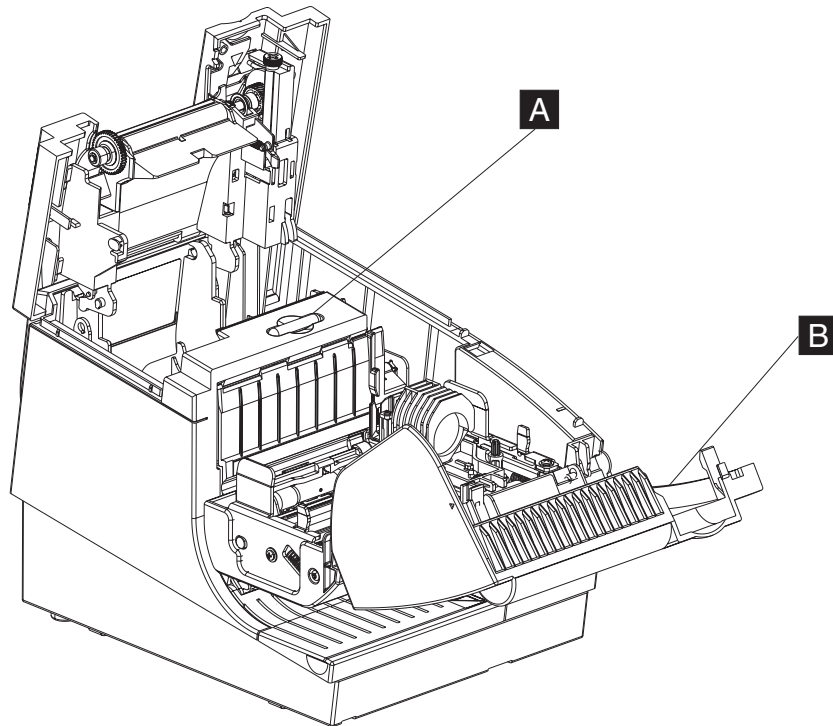

Figure 9. Opening the paper door and ribbon door
2. Open the paper door by pressing the blue release button (**A** in Figure 9).
3. As shown in Figure 9, open the ribbon door (**B**) by pulling downward.
1. Open the paper door by pressing the blue release button (see Figure 9 on page 13).